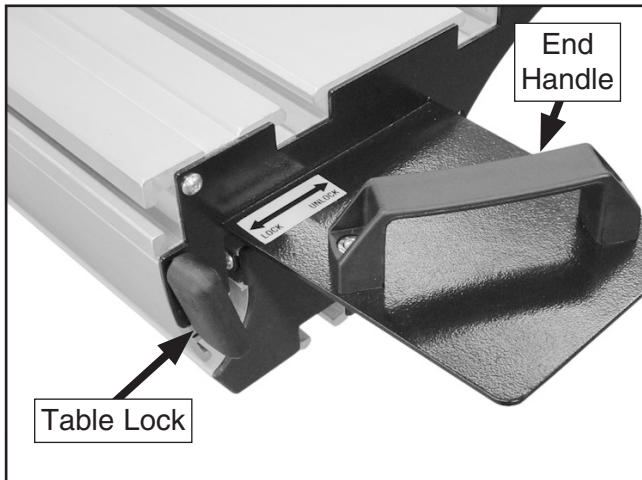

Figure 20. Sliding table end handle.
1. Install the end handle, as shown in **Figure 20**.
2. Rotate the table lock to unlock the sliding table. The sliding table is locked in place when the table lock is in the position shown in **Figure 20**.